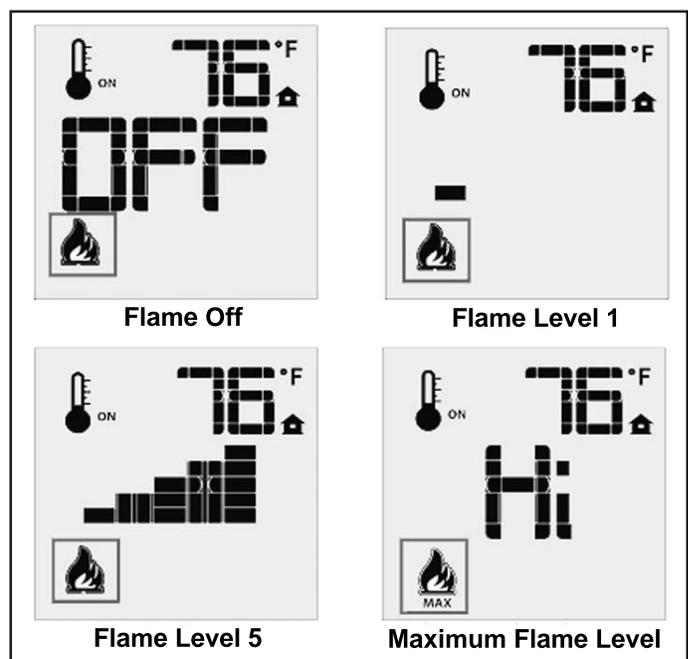

Figure 12: Remote Control's Flame Levels.
The Proflame 2 remote control system has six (6) flame levels. With the system on, and the flame level at the maximum in the appliance, pressing the Down Arrow Key once will reduce the flame height by one step until the flame is turned off. The Up Arrow Key will increase the flame height each time it is pressed. If the Up Arrow Key is pressed while the system is on but the flame is off, the flame will come on in the high position (refer to Figure 12). A single “beep” will confirm reception of the command.